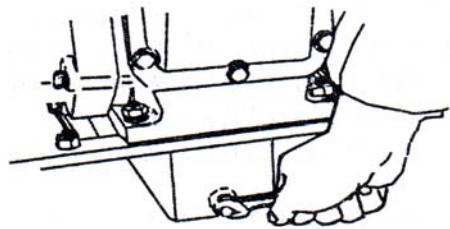

Fig.5
1. Drain out the lubricating oil from the oil sump by screwing off the oil — drain plug. Screw back the plug after draining. This operation may better be performed immediately after the engine stops running when the oil temperature is comparatively high(Fig. 5).